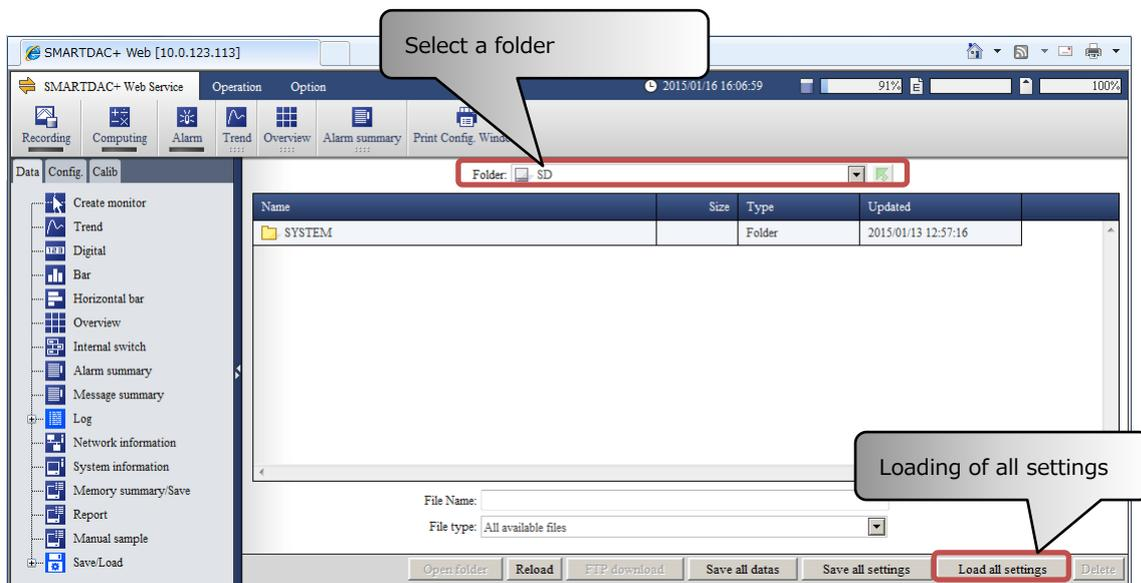

Figure 8: Save/Load screen (3)
- 9.2 Using the contents selection tool, click Data > Save/Load > File List to open the save/load screen (see figure 8).